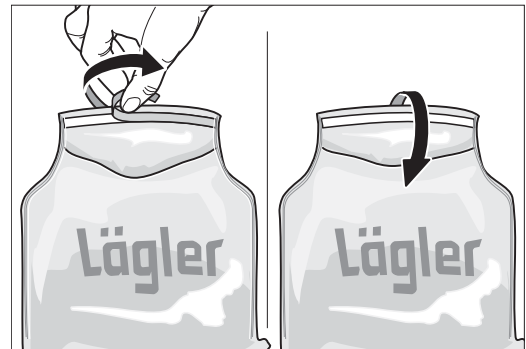

Fig. 15 Pull cover from the adhesive strip and seal the bag. **The dust bag must be deposited in the open air!**
- 8 Fold the flap over the opening of the dust bag and seal the bag (Fig. 15).